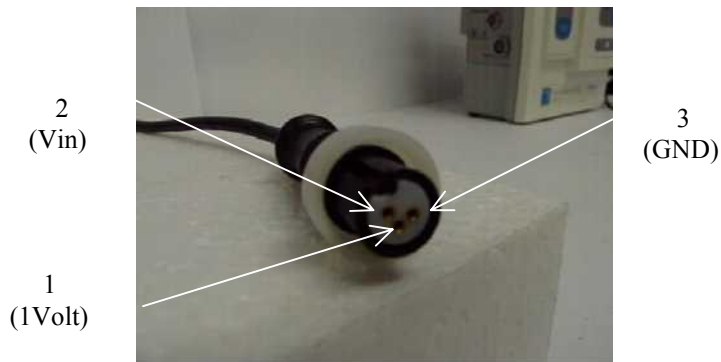

Figure 3-23 Temperature Transducer Connector
3. Connect the leads of the Digital Multimeter (DMM) to pins 1 (1 Volt) and 3 (GND) of Pre-Amp cable (PAC-1) temperature connector (Figure 3-23). **Note:** The ICT parameter should be reading “---“ up to this point.